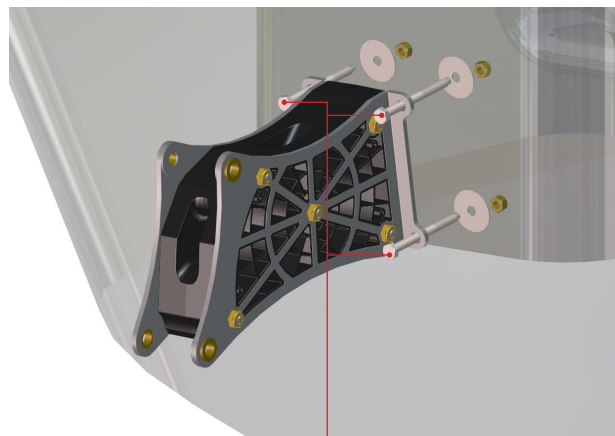

Figure 7
**STEP 11:** Remove the old **Stern Bracket** by removing the (4) **Bolts** that attach it to the boat transom/ adapter plate using a **9/16" Socket & Wrench**. **FIG 7**
**STEP 2:** Attach Stern Bracket to Transom/Adapter Plate using a 9/16" Socket & Wrench following **FIG 7** of **REMOVAL** section.